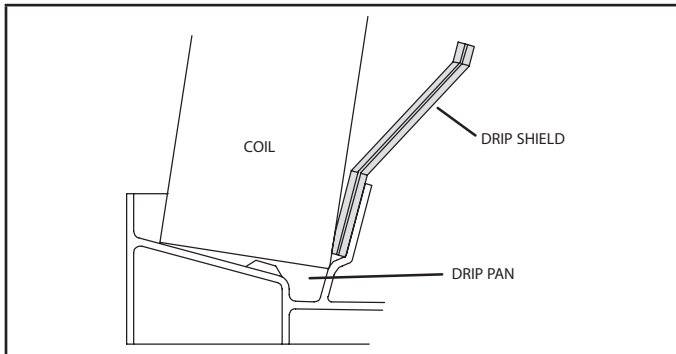

FIGURE 15. Downflow Drip Shields
- 5 - From the underside of the coil, install the downflow drip shield firmly in place as illustrated in figure 15.
The discharge air sensor should be mounted downstream of the electric heat elements as illustrated in figure 15, detail A. It must be placed in a location with unobstructed airflow, where other accessories (such as humidifiers, UV lights, etc.) will not interfere with its accuracy.